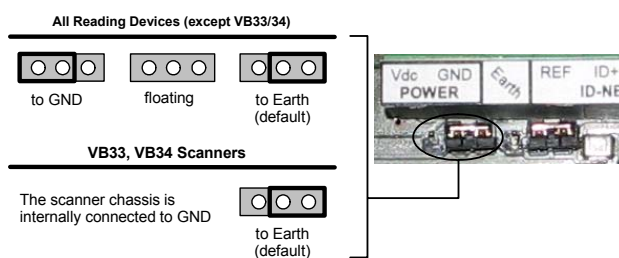

Figure 8 – Chassis Grounding
- Connect the reading device chassis to earth ground through the jumper, (default setting, see Figure 8).
The reading device chassis grounding method can be selected by positioning a jumper (see Figure 8). In this way the reading device chassis can be connected to earth ground (only if pin Earth is connected to a good earth ground). For all reading devices except VB33/ VB34, the chassis can alternatively be connected to the power supply ground signal (GND) or it can be left floating but, in this case, the jumper must be removed. For VB33 or VB34 scanners the chassis is internally connected to GND.